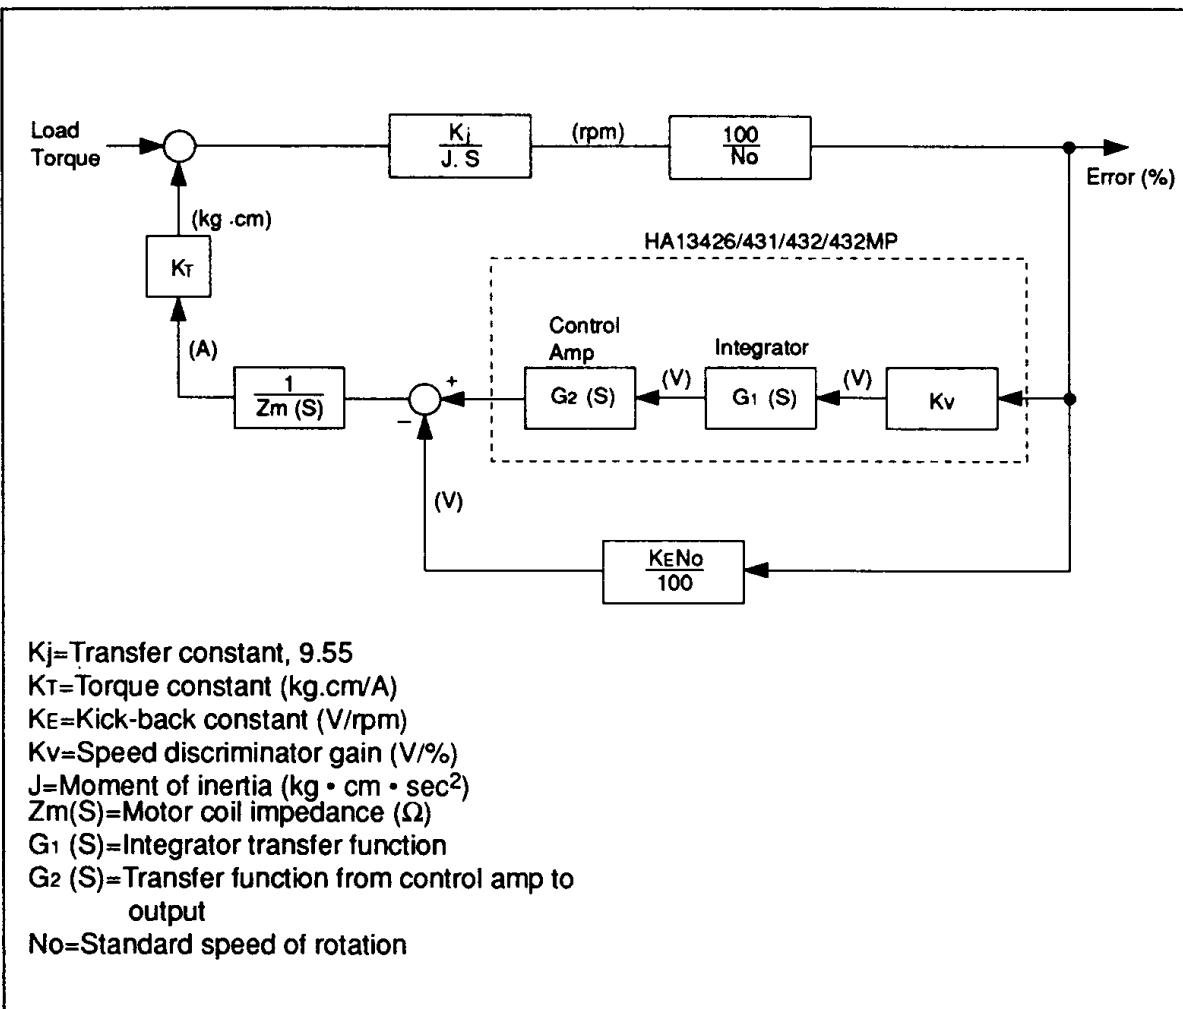
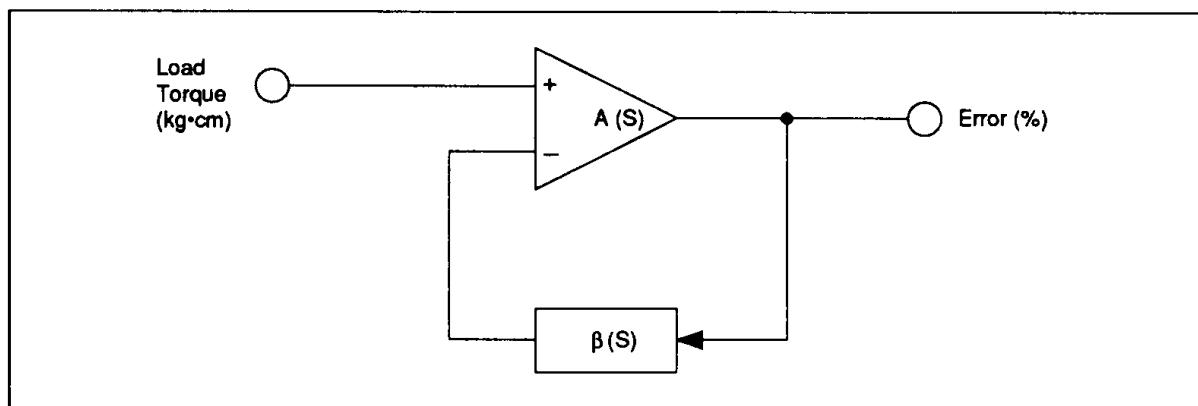

Figure 1 Block Diagram
Figure 2 Simplified Block Diagram
Figure 1 is the block diagram showing motor speed control by the HA13426/431/432/432MP. The part enclosed by dotted lines denotes the IC, and G₁ (S) and G₂ (S) indicate an integrator transfer function and the transfer function from control amp to output, respectively. Since these ICs are driven by voltage, the motor coil impedance and the kick-back voltage are contained in the loop.
In Figure 1, when
Then Figure 1 can be shown in Figure 2.